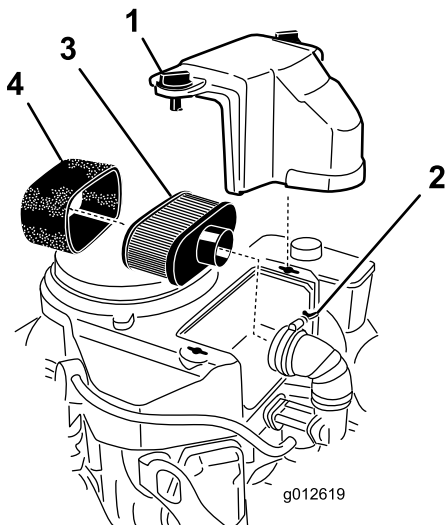

Figure 25
3. Clean around the air cleaner to prevent dirt from getting into the engine and causing damage (Figure 25).
4. Unscrew the cover knobs and remove the air-cleaner cover (Figure 25).
5. Unscrew the hose clamp and remove the air-cleaner assembly (Figure 25).
6. Carefully pull the foam element off the paper element (Figure 25).
1. Clean the paper element by tapping it gently to remove dust. If it is very dirty, replace the paper element with a new one (Figure 25).
1. Carefully slide the foam element onto the paper element (Figure 25).
2. Place the air-cleaner assembly onto the air cleaner base or hose and secure it (Figure 25).
3. Place the air-cleaner cover into position and tighten the cover knobs (Figure 25).